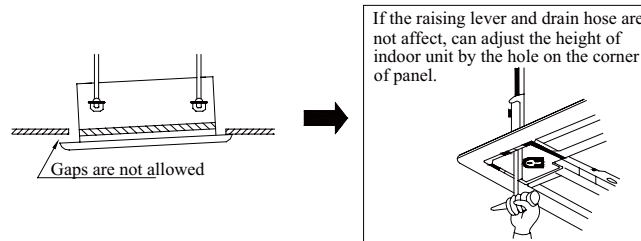

Fig.15
2. If gap still exist between ceiling and decoration panel after tightening the screws, readjust the height of the indoor unit. (As shown in fig.15)